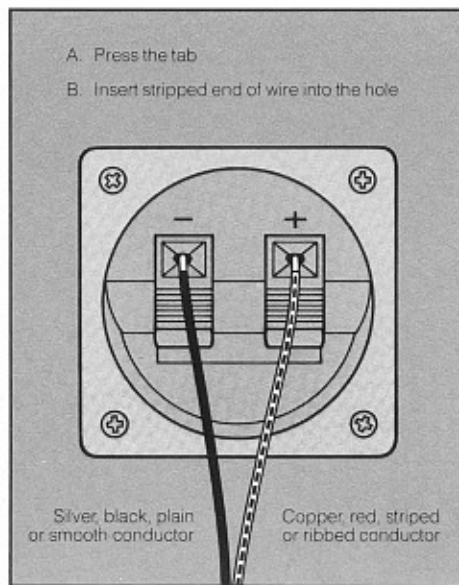

Figure 2. Connecting the speaker
- Locate the speaker terminals on the back of the left speaker (Part 1). Connect the positive side of the wire to the (+) red terminal, and the negative side of the wire to the (-) black terminal. **(Refer to Figure 2.)**